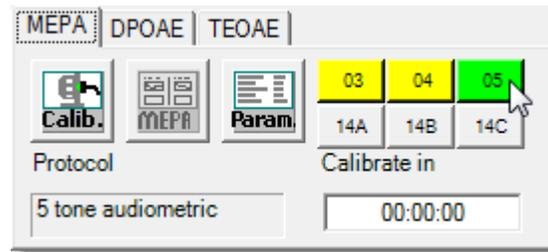
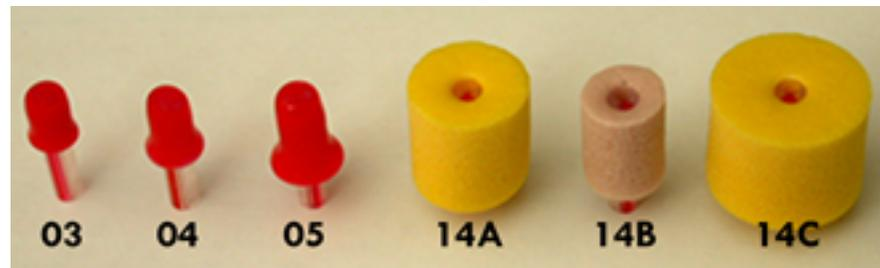

Figure 1.38: Eartip selection in the MEPA toolbar.
Figure 2.1: Seven eartip types are available (the 06 eartip is not shown).
4. From the MEPA toolbar, select the current eartip type and size. See Figure 1.38, and see also Figure 2.1 and the Installation Manual for eartip types and codes.
The HearID system offers six eartip sizes for MEPA systems, and seven eartip sizes for DP and TE systems (see Figure 2.1 and the Installation Manual). The rubber tips and smallest foam tip are typically used for pediatric patients and the foam tips for adult patients. If you are not sure which size to pick, start with the 04 for pediatric patients and the 14A for adult patients.